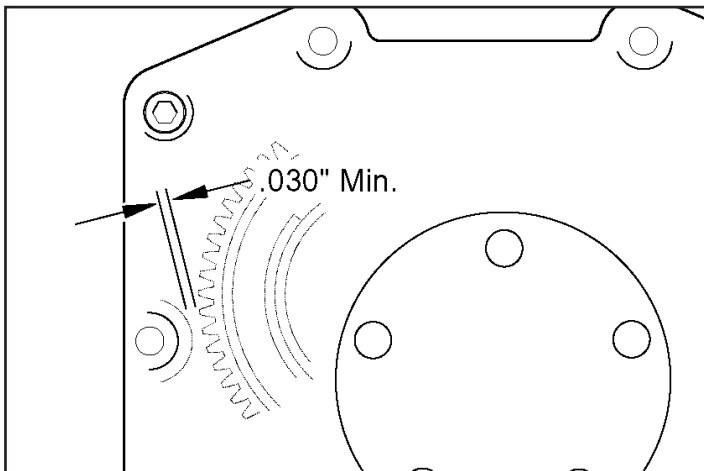

Figure 3
20. Press a small amount of kneadable clay or putty on the cam cover mounting boss shown. **See Figure 3** below. Carefully hold the cover and cover gasket in the position against the crankcase. Install mounting bolts (4) near the corners of the cover finger tight. Push or tap the cam cover towards the engine.